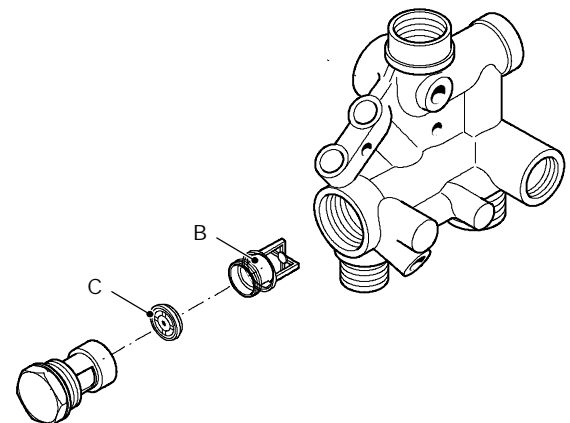

fig. 69
- 2 Unscrew the part B (fig. 69) and remove it from the body of the filter.